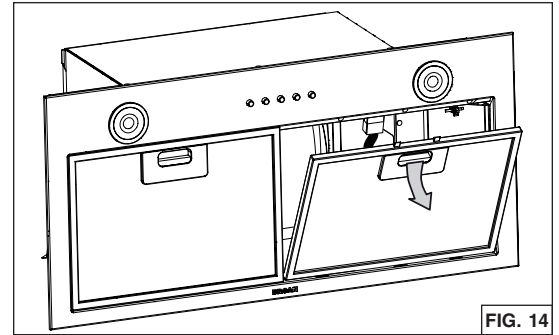

FIG. 14
2. Remove the grease filter(s) by pushing down on latch tab and tilting the filter(s) downward (FIG. 14). Set aside the filter(s).